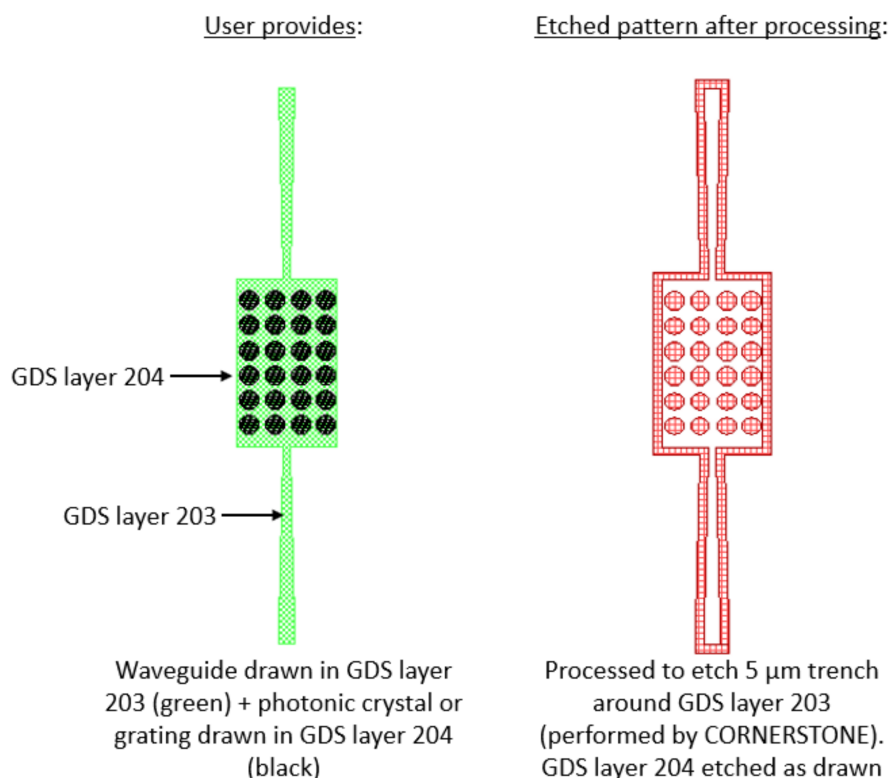

Figure 2: Example photonic crystal structure using GDS Layers 203 & 204.
- Silicon Nitride Etch 1: 200 nm full etch to BOX – GDS Layer 204 (Dark field): Drawn objects on this layer will be exposed to the silicon nitride full etch to the BOX. An example photonic crystal structure is shown in Figure 2. The important thing to note here is that the waveguide layer drawn in GDS layer 203 should overlap the structures drawn in GDS layer 204, so that when the 5  $\mu\text{m}$ -wide trenches are generated by CORNERSTONE, a continuous waveguide remains. Note that the client should contact CORNERSTONE team if the design has photonic crystals structures with a diameter smaller than 600 nm to decide on whether structures need to be biased.